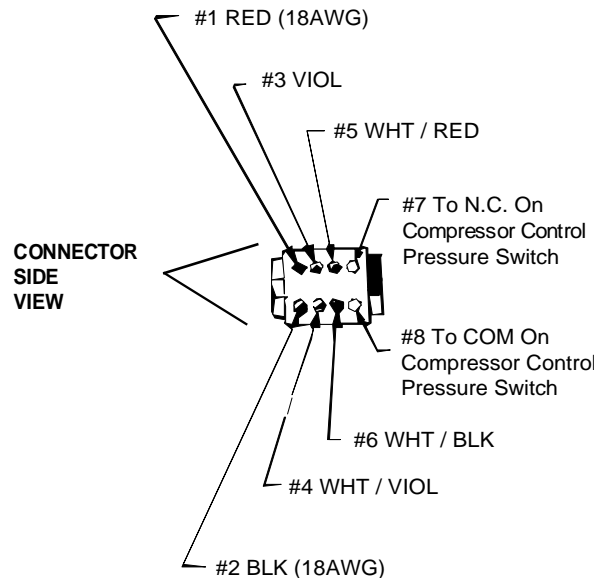

Figure 5
- d) Referencing **Figure 5**, insert the opposite end of the wire connected to the terminal labeled N.C. on the compressor control switch, into the pin 7 location of the 8-Pin, Male, Power Module Logic Cable connector.